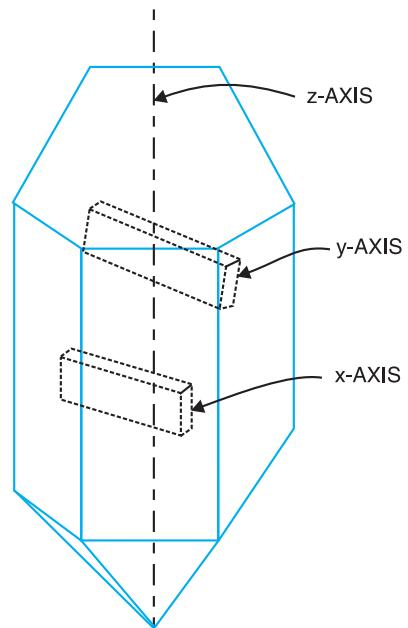

Fig. 14.19
**Quartz crystal.** Quartz crystals are generally used in crystal oscillators because of their great mechanical strength and simplicity of manufacture. The natural shape of quartz crystal is hexagonal as shown in Fig. 14.19. The three axes are shown : the *z-axis* is called the *optical axis*, the *x-axis* is called the *electrical axis* and *y-axis* is called the *mechanical axis*. Quartz crystal can be cut in different ways. Crystal cut perpendicular to the *x-axis* is called *x-cut crystal* whereas that cut perpendicular to *y-axis* is called *y-cut crystal*. The piezoelectric properties of a crystal depend upon its cut.